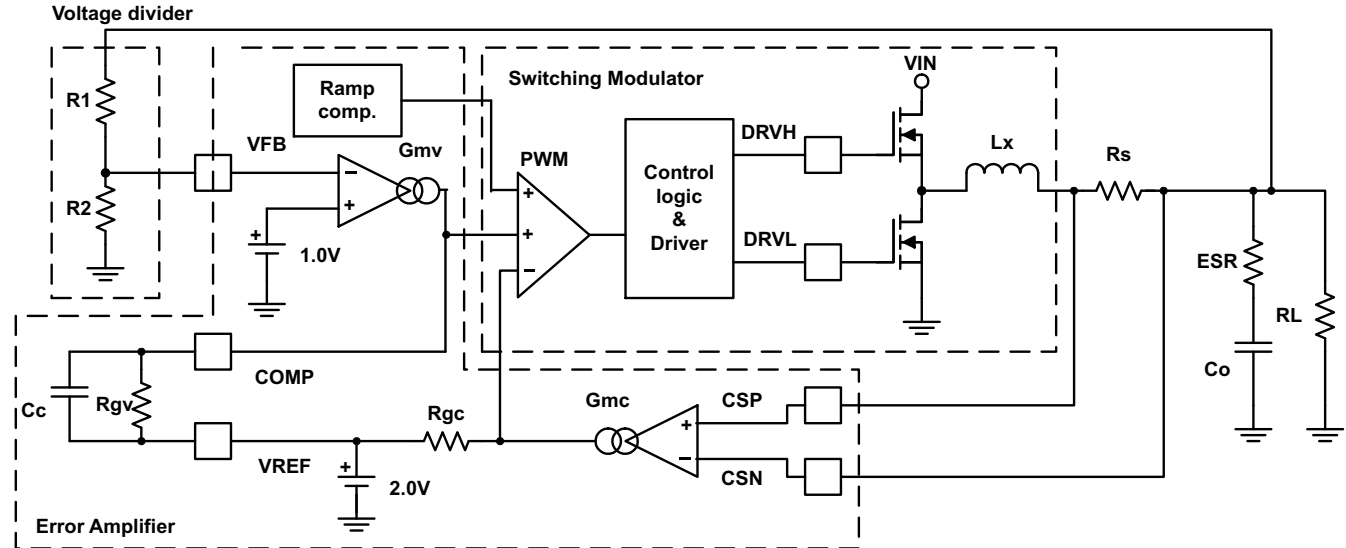
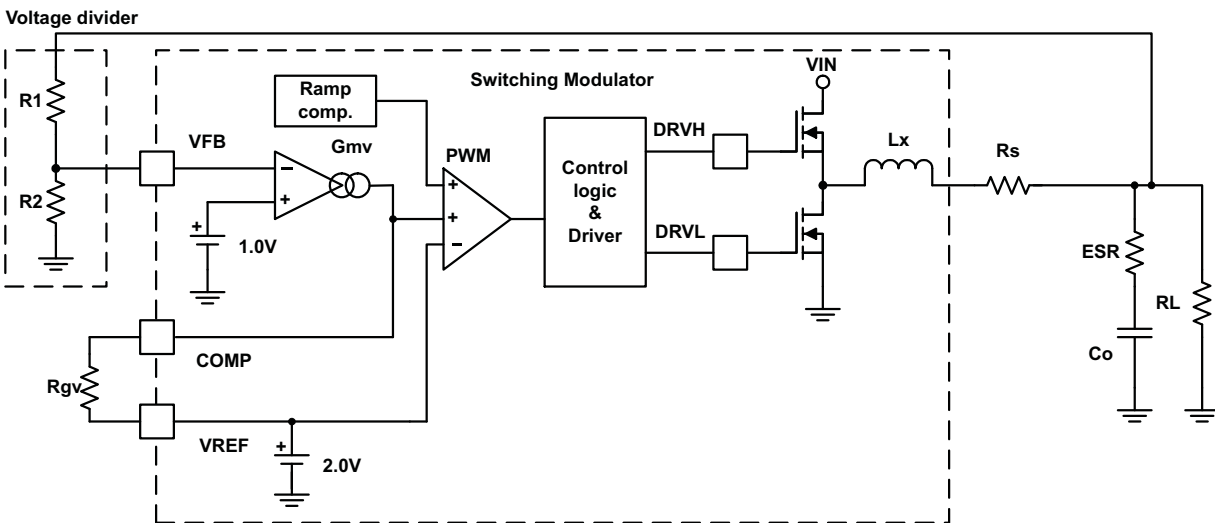

Figure 43. Simplified Current Mode Functional Blocks
Figure 44. Simplified D-CAP Mode Functional Blocks
A buck converter using TPS51220 consists of linear circuits and a switching modulator. Figure 43 and Figure 44 show basic scheme.
1. Determine output voltage dividing resistors (R1 and R2: shown in Figure 43) using the next equation